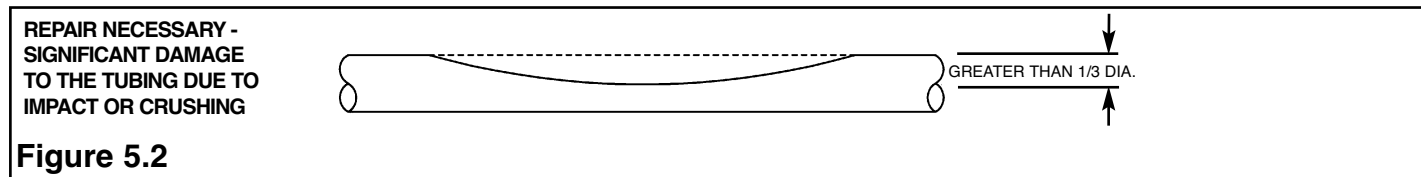

Figure 5.2
- The tubing has been significantly damaged (Figure 5.2).